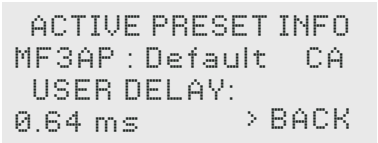

Figure 22. Active Presets View.
3. **Push (without turning)** to open the Active Preset Info screen and see both the active preset and the delay currently defined (Figure 22). Clicking "Back" will return to the Overview screen.